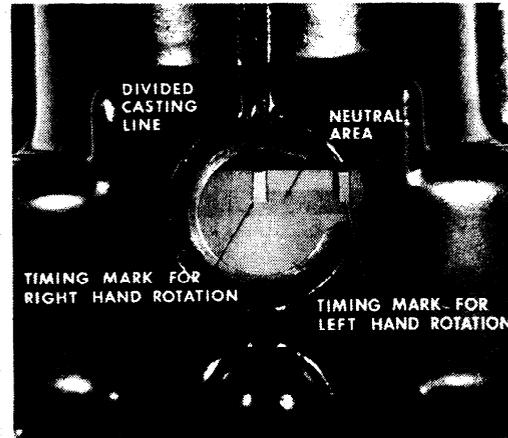

Figure 2. Alignment of Magnet Marks – Right Hand Rotation
- b. Continue turning the engine slowly, still in the direction of normal rotation, until the proper timing mark on the rotating magnet is centered in the viewing hole. Figure 2 illustrates the timing mark centered for a right hand rotation magneto. A left hand rotation magneto would have the left hand mark centered. (See figure 2.) Eight cylinder magnetos will show an "R" line or an "L" line on the rotating magnet.
one cylinder firing position until proper timing mark on rotating magnet is in the center of the viewing hole. (See figure 2.)